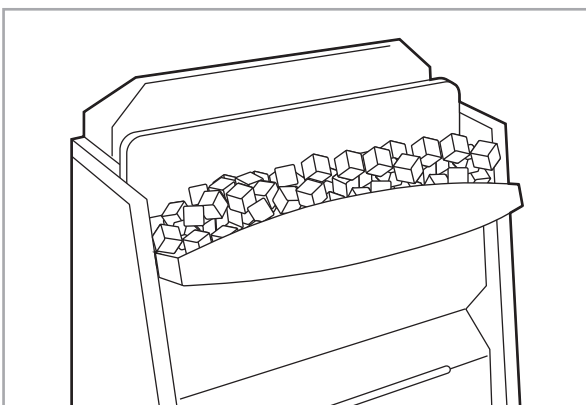

Figure 3.8
- 6) When stacking the stones, ensure that you do not place **small heater stones among the resistors or on top of the ventilation grill located at the top edge of the heater** (see Figure 3.8).